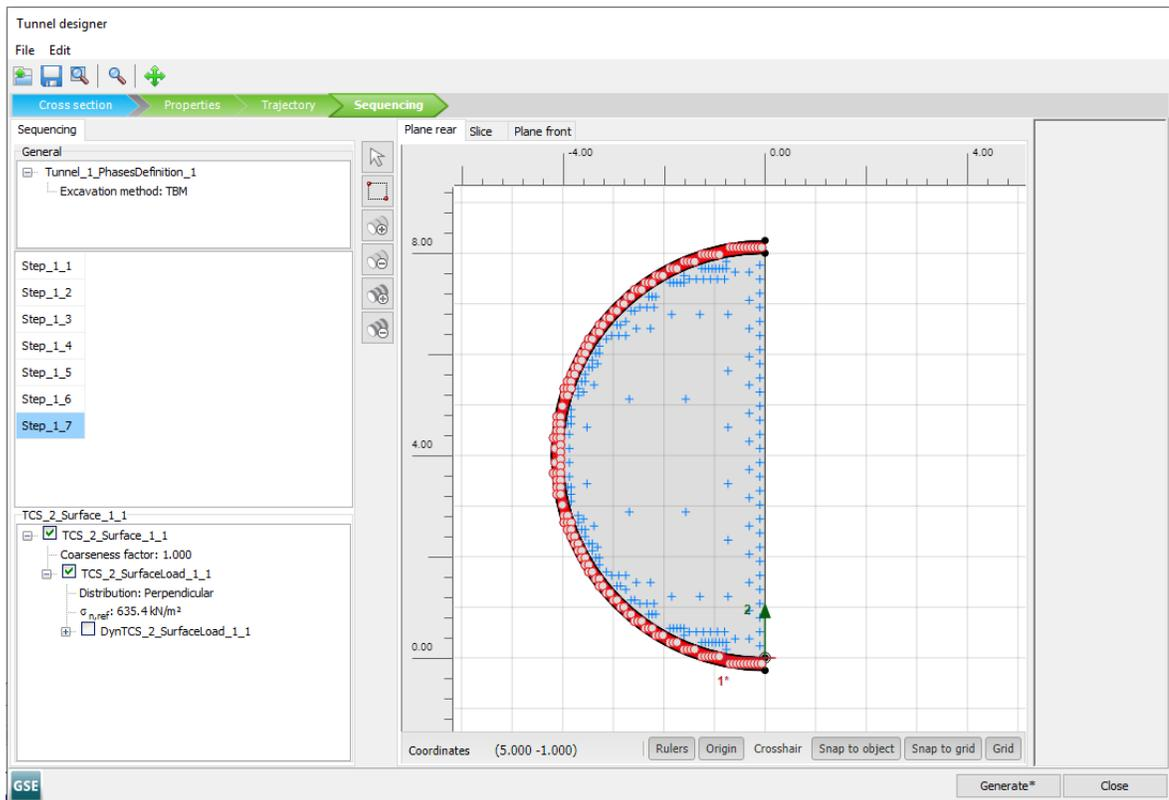

Figure 74: Plane Rear tabsheet in the **Tunnel designer** Step_1_7
- In the **Selection explorer**, activate the surface load and select the *Perpendicular* option for the distribution with $\sigma_{n,ref} = 635.4 \text{ kN/m}^2$ (Figure 74 (on page 100)).